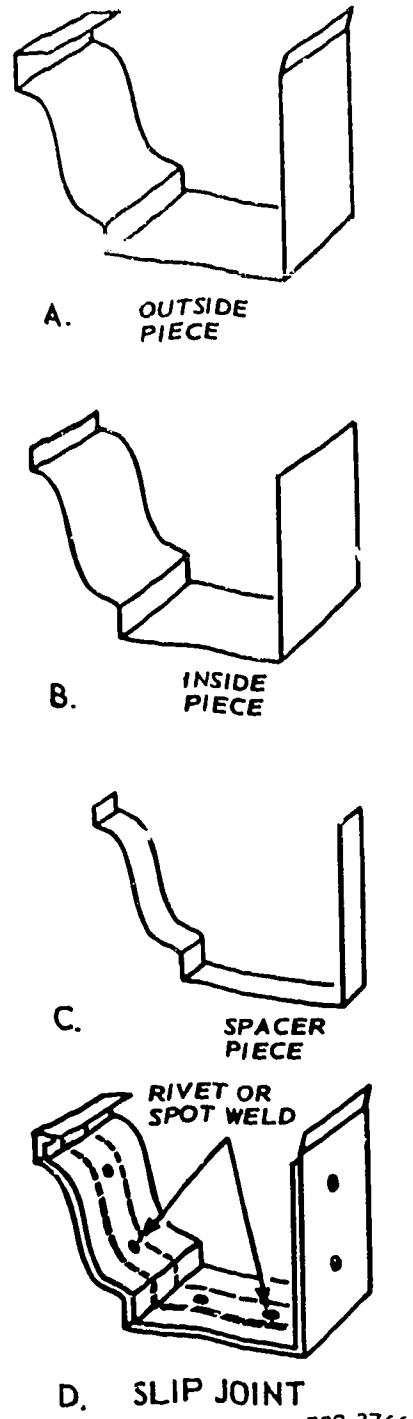

Figure 3-27. Pieces to fabricate a gutter slip joint.
**Slip joints.** The next component to fabricate is a slip joint (see view D of fig. 3-27). The outside piece shown in view A has the same shape as the gutter shown in figure 3-24, but remember to measure the stretchout dimensions on the *outside* of the gutter. This outside piece of the slip joint is only  $2\frac{1}{2}$  inches wide. It is formed on the cornice brake like the long joints, except for the curved bends. Since the material is only  $2\frac{1}{2}$  inches wide, these bends can be made on the conductor stake by hand pressing. Make the inside piece of the slip joint (view B of fig. 3-27) by using the *inside* measurement of the gutter to make a stretchout pattern  $2\frac{1}{2}$  inches wide. Notice that this piece has neither the  $\frac{1}{2}$ -inch flange nor the hem that piece A does. This piece can also be formed on the cornice brake and conductor stake. Make the  $\frac{1}{2}$ -inch-wide spacer (view C) from 16-gage metal, to allow for the sealant and to give sufficient room for a slip joint. Form the spacer just like piece B. After you make the three pieces, assemble them by riveting or by spot welding.